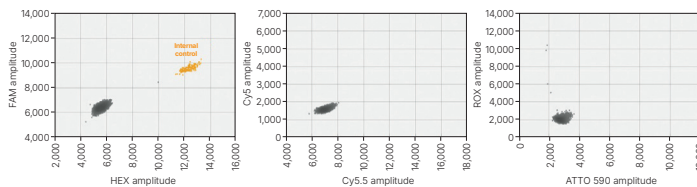
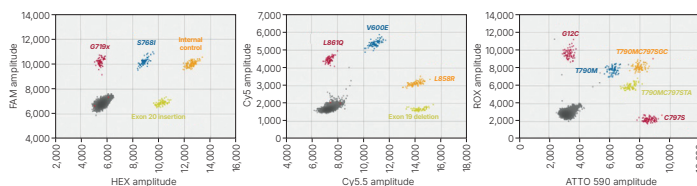
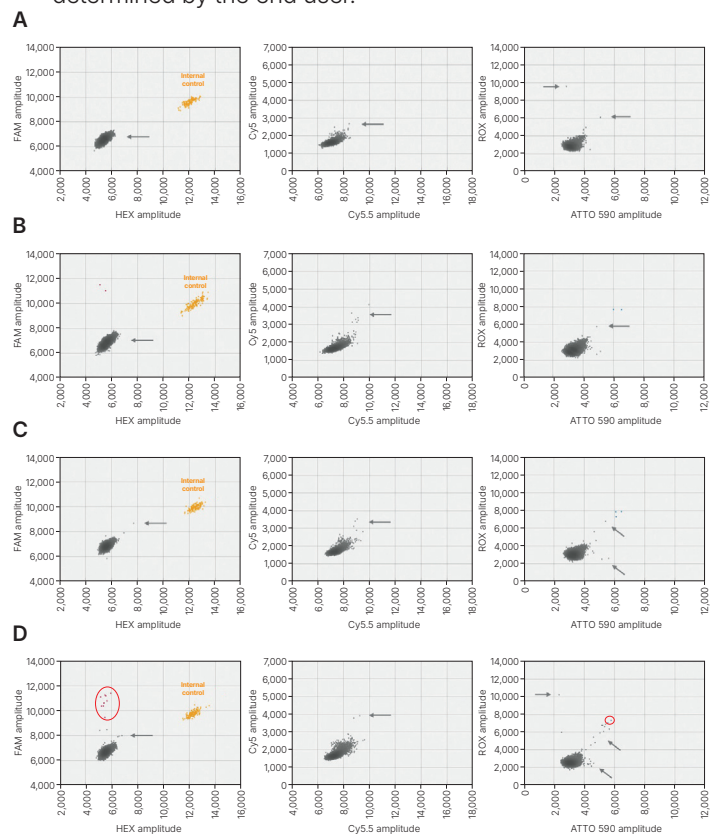

Fig. 17. 2-D plots for two wells of no template control.
Fig. 18. 2-D plots for two wells of positive control. *T790MC797SGC*, *T790M* + *C797S G>C*; *T790MC797STA*, *T790M* + *C797S T>A*.
Fig. 19. 2-D plots for two wells each of wild-type negative control. Input wild-type DNA at A, 10; B, 30; C, 50; and D, 132 ng/reaction.
Note: There may be a few droplets present in the ROX channel to the left of the positive G12C cluster, as shown in Figure 15. It is recommended to leave these droplets thresholded as negative. Also refer to step 9 and Figure 16. To help distinguish this subpopulation of droplets from the positive cluster and determine the appropriate threshold location, it is recommended to review and compare the location of any droplets with amplitudes higher than the negative control cluster in the 2-D ROX/ATTO 590 cluster plot of the no template control (Figure 17) or wild-type negative control (Figure 19) to that of the positive control (Figure 18).
1. Examine the no template control (NTC) wells to detect potential contamination. The internal control cluster will appear in the FAM/HEX channels. Ideally, all other droplets should be classified as negative. Tolerance to positive droplets should be determined by the end user. See Figure 17 for example 2-D plots.
2. Observe the positive control wells to ensure that each plot has the expected negative and positive clusters. Refer to Figure 18 for example 2-D plots.
4. Examine the wild-type negative control samples. A positive cluster for the internal control is expected in the FAM/HEX channels. For the other channels, the only cluster present should be the negative cluster, with a minimal number of droplets that stray far from the negative cluster such as those indicated by gray arrows in Figure 19. A small number of positive droplets in the *G719x* and *T790M* targets, such as those circled in Figure 19 D, may occur and increase in frequency with higher input DNA amounts. Refer to Figure 19 for example 2-D plots for two wild-type negative control wells run with 10, 30, 50, and 132 ng/reaction in Figures 19A–D, respectively. Tolerance to positive droplets should be determined by the end user.